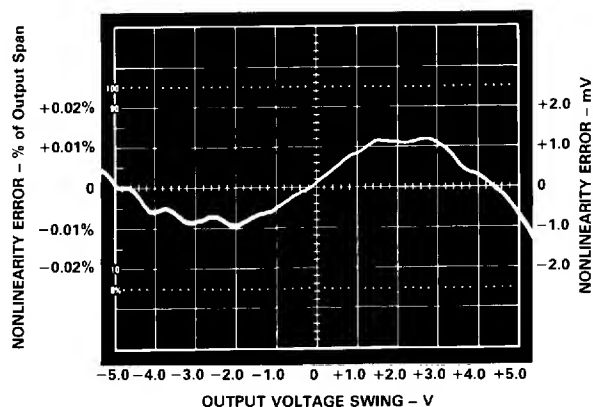

Figure 4. Typical Gain Nonlinearity Error (% of Output Span and mV) vs. Output Voltage Swing for a Gain of 1 V/V and with  $V_S = 15$  V pk-pk, 25 kHz Square Wave
**Gain Nonlinearity.** The typical gain nonlinearity error of the AD208, at a gain of 1 V/V, is specified as  $\pm 0.0125\%$  or  $\pm 1.25$  mV. The nonlinearity performance of the AD208 is dependent on the output voltage swing and this dependency is illustrated in Figure 4. The vertical axis represents the nonlinearity error, expressed in % of output span (i.e., % of 10 V) on the left axis or in mV on the right axis. The horizontal axis displays the magnitude of the output voltage swing.